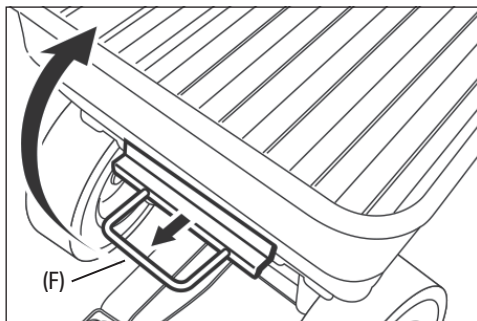

Fig. 7
8.1 Tipping the Hopper - Fig. 7